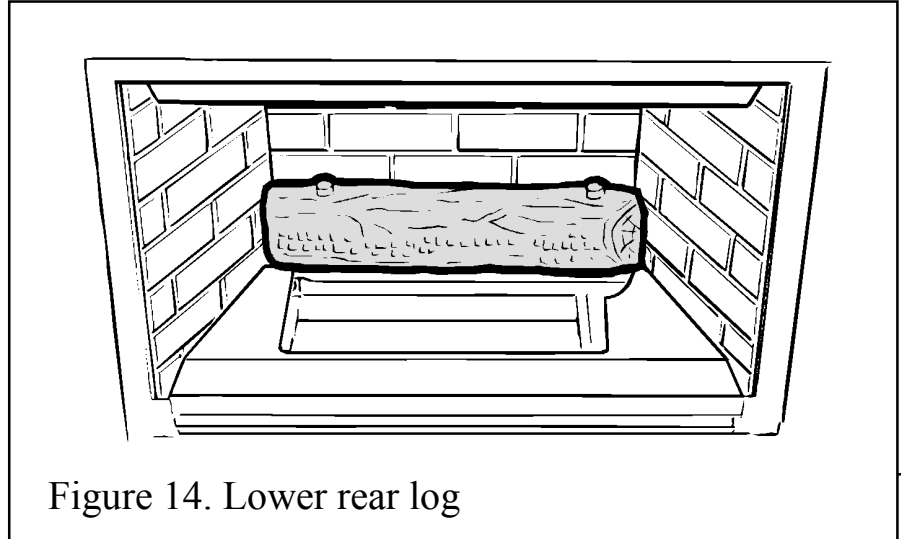

Figure 14. Lower rear log
1. Place the lower rear log in the support cradles at the back of the firebox (See figure 14).